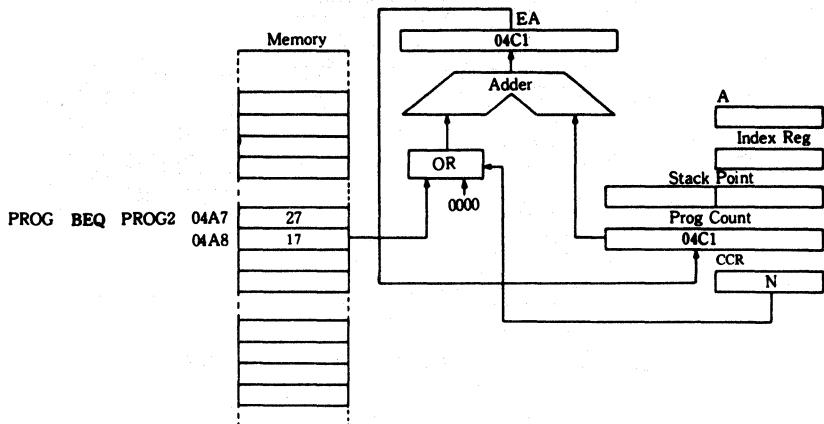

Figure 2-25 Relative Addressing Example
(4) Relative
Refer to Figure 2-25. The relative addressing mode applies only to the branch instructions. In this mode the contents of the byte following the opcode are added to the program counter when the branch is taken. $EA = (PC) + 2 + Rel$. Rel is the contents of the location following the instruction opcode with bit 7 being the sign bit. If the branch is not taken, Rel=0. When a branch takes place, the program goes to somewhere within the range of +129 bytes to -127 of the present instruction. These instructions are two bytes long.
(5) Indexed (No Offset)